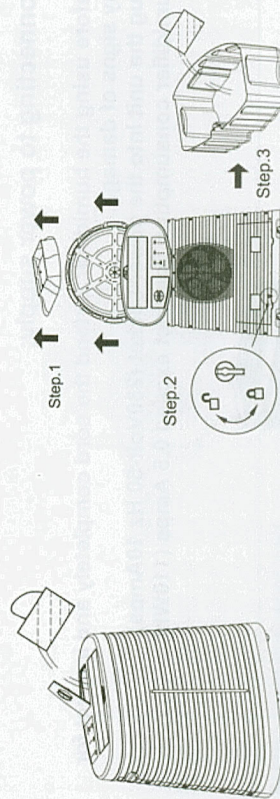

Figure.1
1. Lift up the water inlet cover. Fill the water into the tank through the water inlet tube (Figure.1).